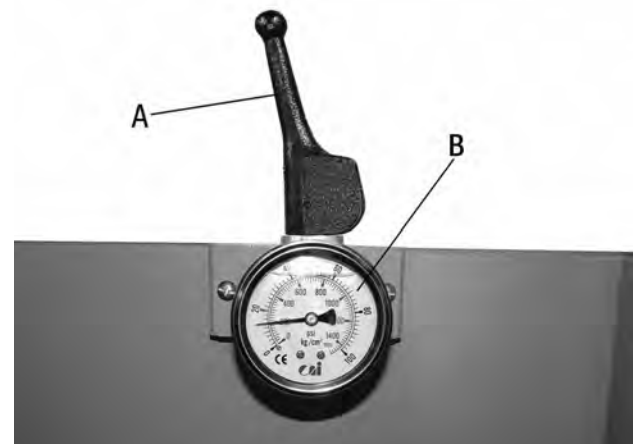

FIGURE 17
5. Loosen blade tension by lifting blade tension handle (A) Fig. 17, turn it counterclockwise to decrease blade tension.
8. Place blade in the middle of the upper and lower wheels, tension the blade by turning blade tension handle (A) Fig.17 clockwise to tension and lowering handle to secure tension adjustment.
9. The blade tension must be set depending on the blade width, at the rear of the bandsaw is a hydraulic blade tension gauge (B) Fig.17. Turn the blade tension handle (A) clockwise until the tension reaches the recommended blade tension as indicated below.